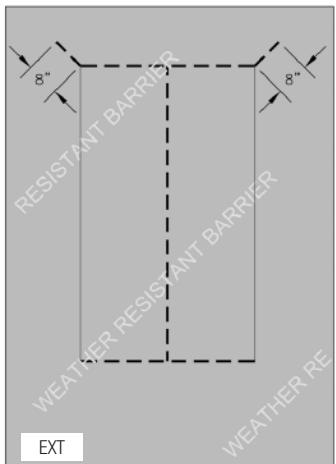

FIG. 3
- G) Make an “I-Cut” in the weather-resistant barrier (WRB). Begin with a horizontal cut along the bottom and the top of the rough opening. Then make a vertical cut in the center from top to bottom. (Fig. 3)